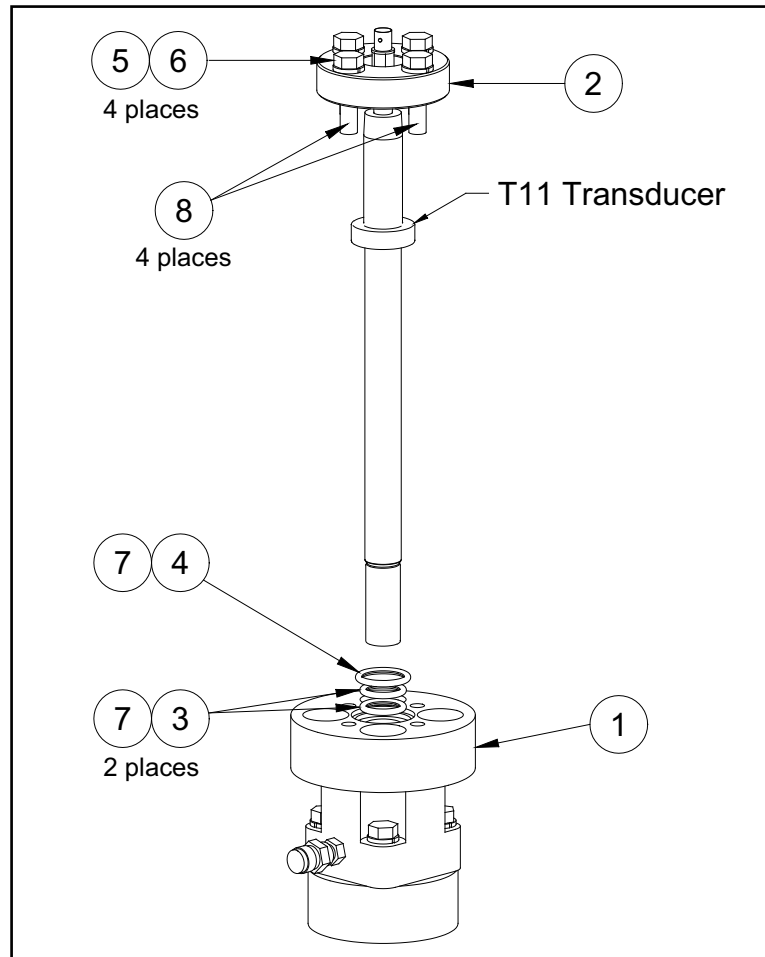

Figure 74: T11 Installation Components for a Depressurized Pipe
See *Table 10* below and *Figure 74* below for the components required to install the new transducer.
*Component numbers correspond to item numbers in *Figure 74* below.